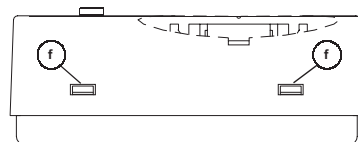
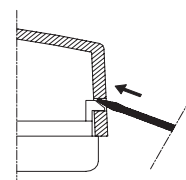

Fig. 3: Plastic teeth position
Fig. 4: Cover opening through screwdriver
2. Remove plastic cover by moving to the inner side, through the use of a tool (Fig. 4), the two plastic teeth (f) located on the left side (Fig. 3) of the thermostat.